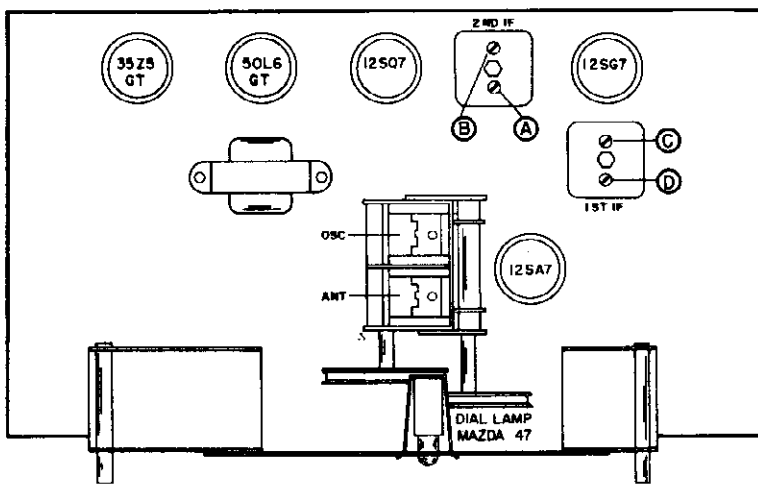

Fig. 3. Top View of Chassis Showing Location of Alignment Adjustments, Tubes and Dial Lamp
**TUBE AND DIAL LAMP REPLACEMENT** - Refer to Fig. 3 for the location of the tubes and dial lamp used in the receiver. To gain access to the tubes and lamp, remove the back cover from the cabinet. Before attempting to make any replacement, set the BAND SPREAD control fully clockwise and the TUNING control fully counterclockwise to prevent damage to the tuning gang. To replace a tube, insert the center guide pin into the center hole of the tube socket, rotate the tube until the key drops into position and then push down until the tube is held firmly in the socket. To make a dial lamp replacement, remove the dial lamp socket by compressing the side springs. Make replacement only with a type 47 pilot lamp.
- See Figs. 3 and 4 for location of alignment adjustments.